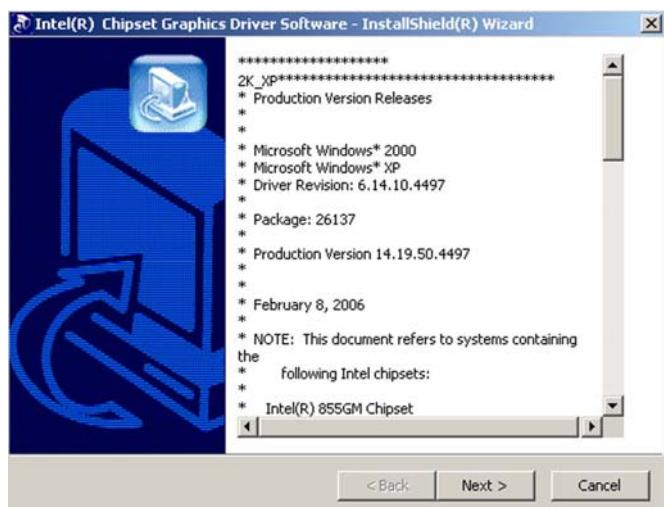

Figure 7-9: GMA Driver Readme File
Step 21: The Readme information file shown in **Figure 7-9** appears.